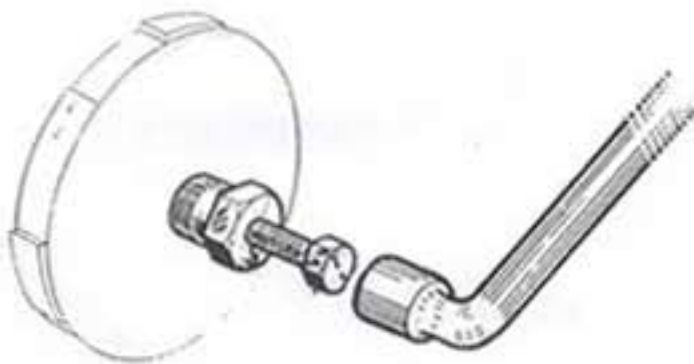

Fig. 3
- Fit the variator puller (100020, 24 X 100) and gradually screw to the hub of the variator drum. Tighten the center bolt of the puller until the drum is free (17mm socket, fig. 3).